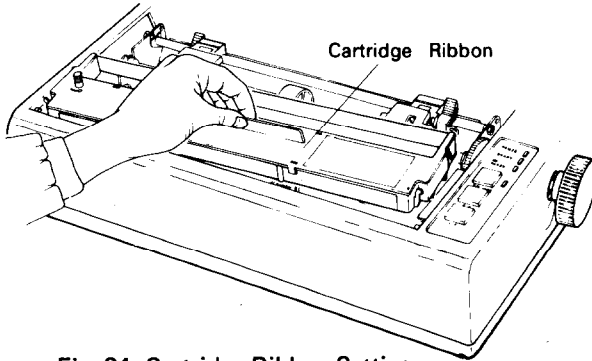

Fig. 24 Cartridge Ribbon Setting
STEP 3. Push the cartridge ribbon down and set it on the printer mechanism. To facilitate the cartridge ribbon setting, be sure to hold the projection at the center of the cartridge case when pushing the cartridge ribbon down. (See Fig. 24.)